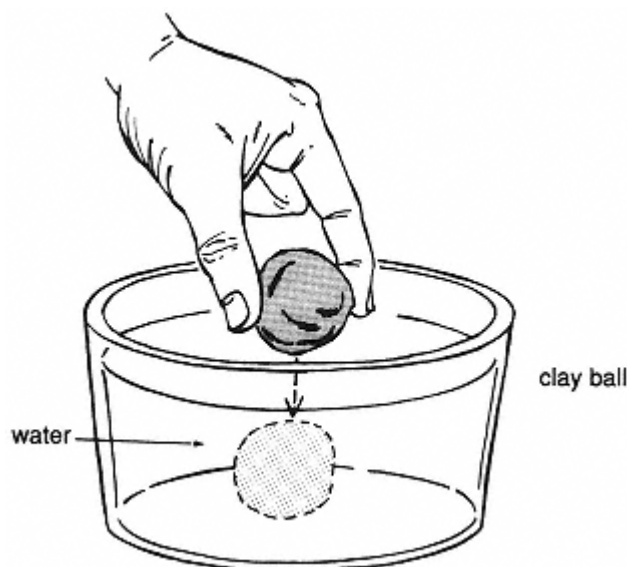

Figure 20.1
4. Carefully place the clay ball on the surface of the water in the bowl (see Figure 20.1).